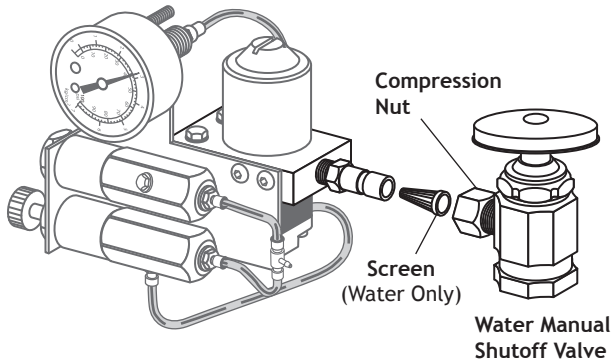

**Figure 7. Air or Water Filter Replacement**
1. Be sure that the manual shutoff valves are fully open (counterclockwise). Turn the system on and check the pressure gauges in the floor box (see Figures 7 and 8). Air pressure should be 70–80 psi while water pressure should be 35–40 psi.
To check for a clogged air filter, flip the master on-off toggle to the ON position and remove the floor box cover. While watching the air pressure gauge in the floor box (see Figures 7 and 8), press the syringe air button. If the air pressure indicated by the gauge drops by more than 15 psi, the filter element is clogged and must be replaced.